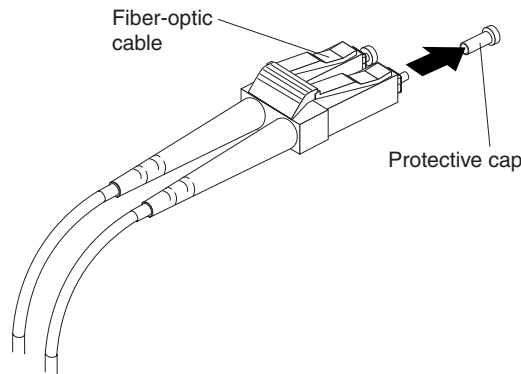

Figure 18. Removing fiber-optic cable protective caps
3. Remove the two protective caps from one end of the LC-LC cable, as shown in Figure 18. Save the protective caps for future use.
5. Remove the two protective caps from the other end of the LC-LC cable, as shown in Figure 18 on page 26. Save the protective caps for future use.